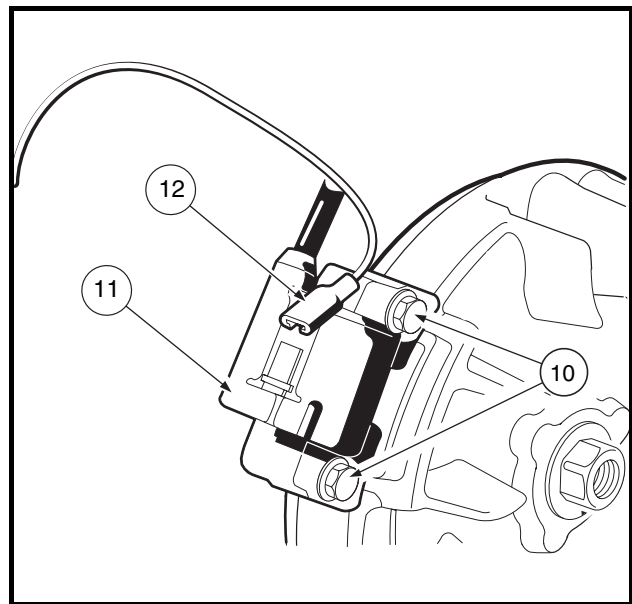

Figure 14-26 Ignition Coil Removal
9. Disconnect the 18-gauge black wire (12) from the spade terminal on the ignition coil (11) and remove the coil by removing two bolts (10) (**Figure 14-26, Page 14-24**).